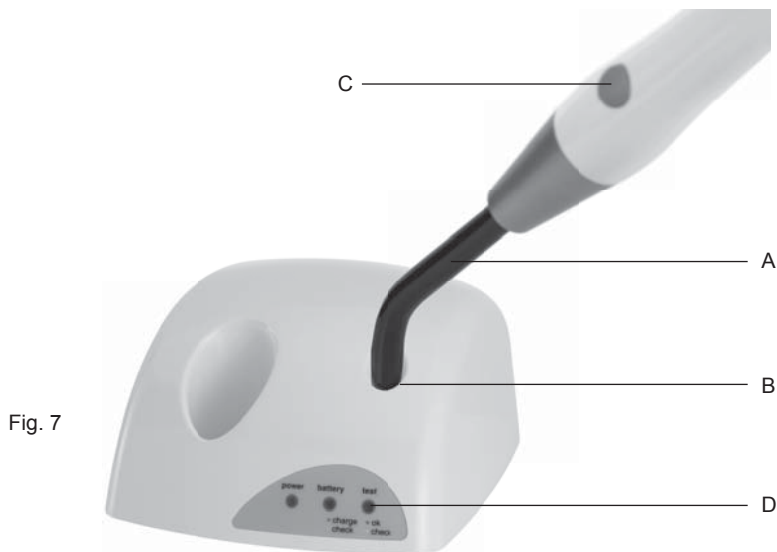

Fig. 7
- 1 Place the optical fibre (Fig.7 - Ref.A) flat on the surface of the light-intensity sensor without pressing it (Fig.7 - Ref.B);
- 2 Press the button (Fig.7 - Ref.C) to switch on the lamp.
The test LED (Fig.7 - Ref.D) will indicate the working luminous flux measured: